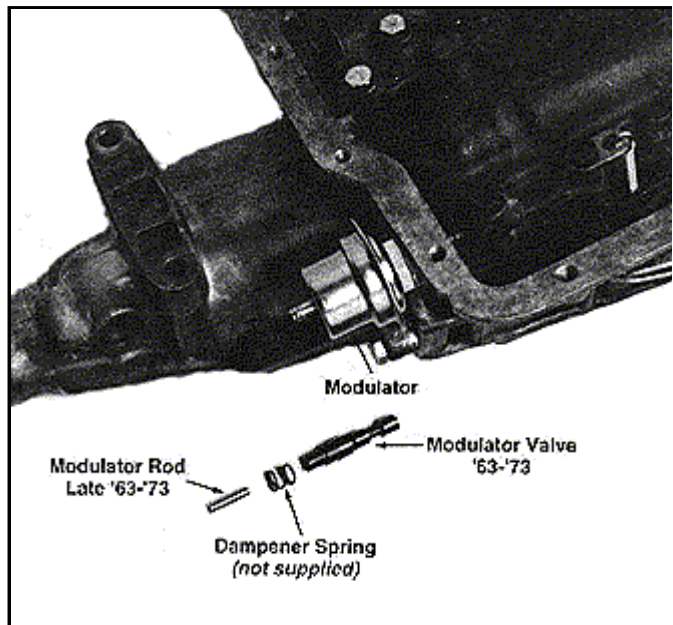

Figure 1
STEP 1 Remove vacuum modulator (**See Figure 1**) as follows: Disconnect vacuum line from modulator. Unscrew modulator from case using a 1" wrench. Remove gasket, modulator rod (1962 and early '63 do not have a rod), dampener spring (not on all models) and modulator valve. Place these parts in a container.